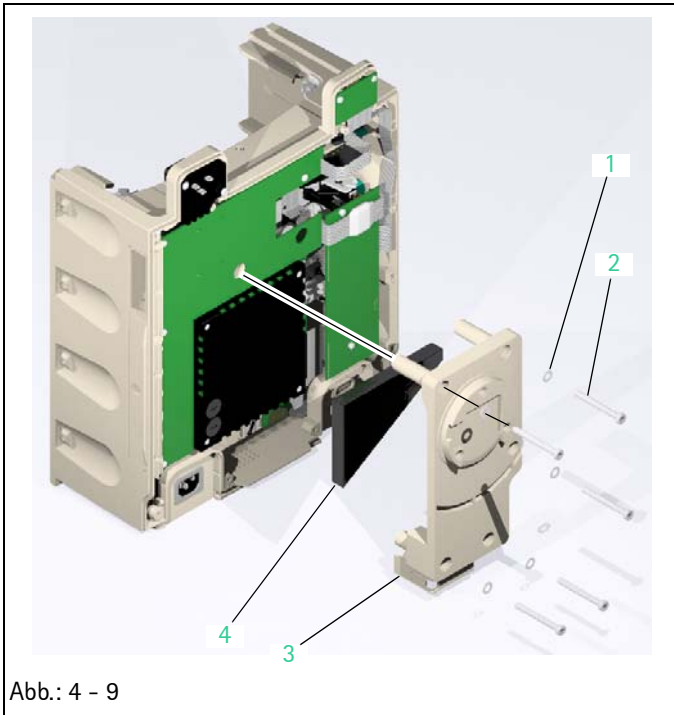

Abb.: 4 - 9
3. Remove fan grid (Abb.: 4 - 8 / Item 4) out of the housing back panel (Abb.: 4 - 8 / Item 2).
4. Remove fan (Abb.: 4 - 8 / Item 5) out of the housing back panel.
Legende zu Abb. 4 - 9: